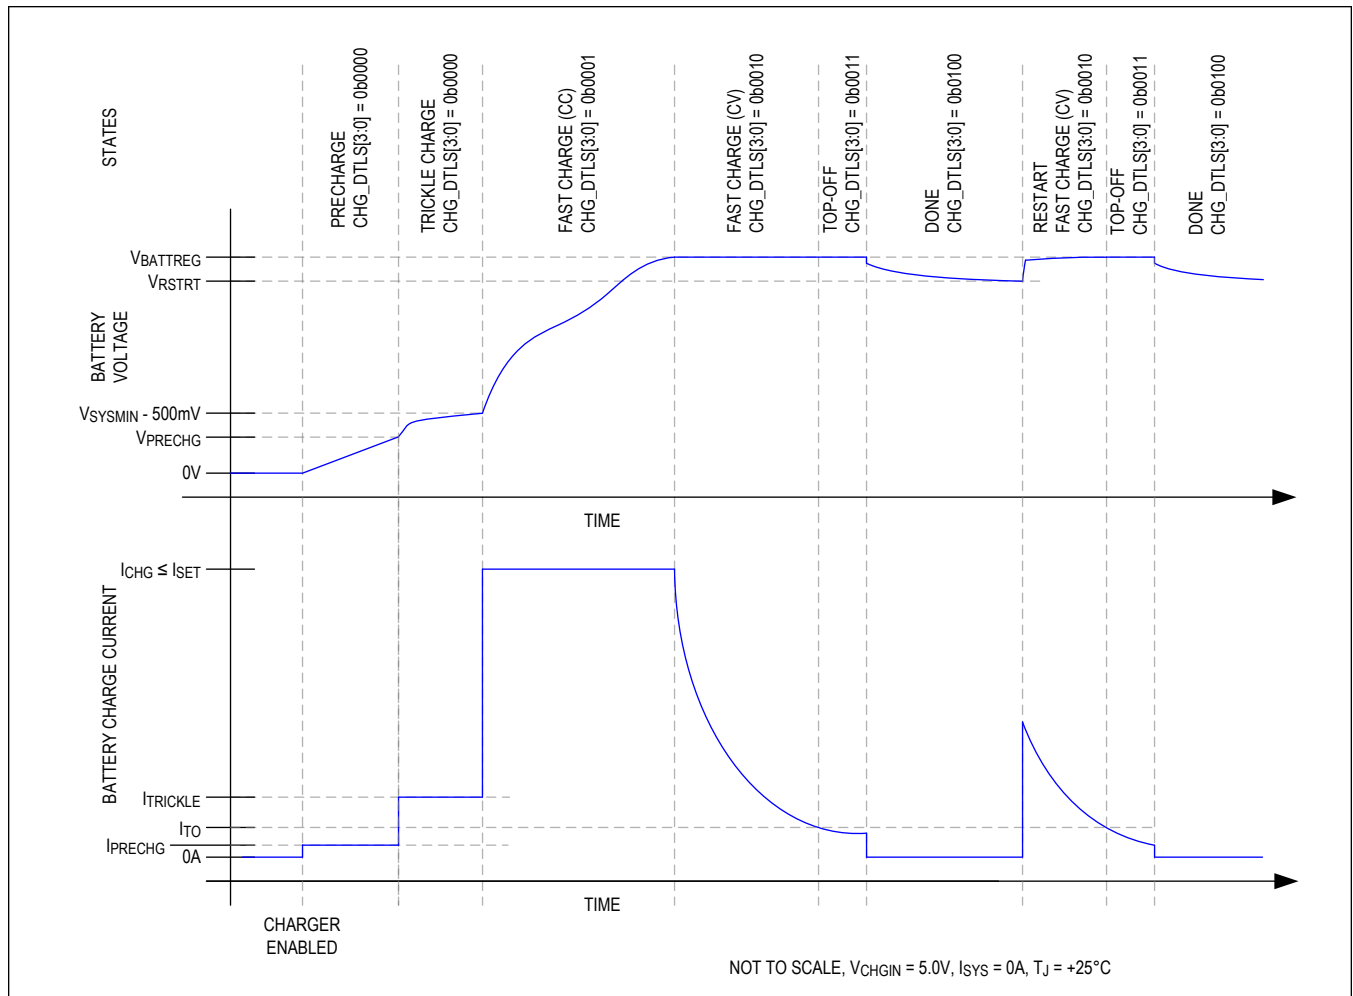
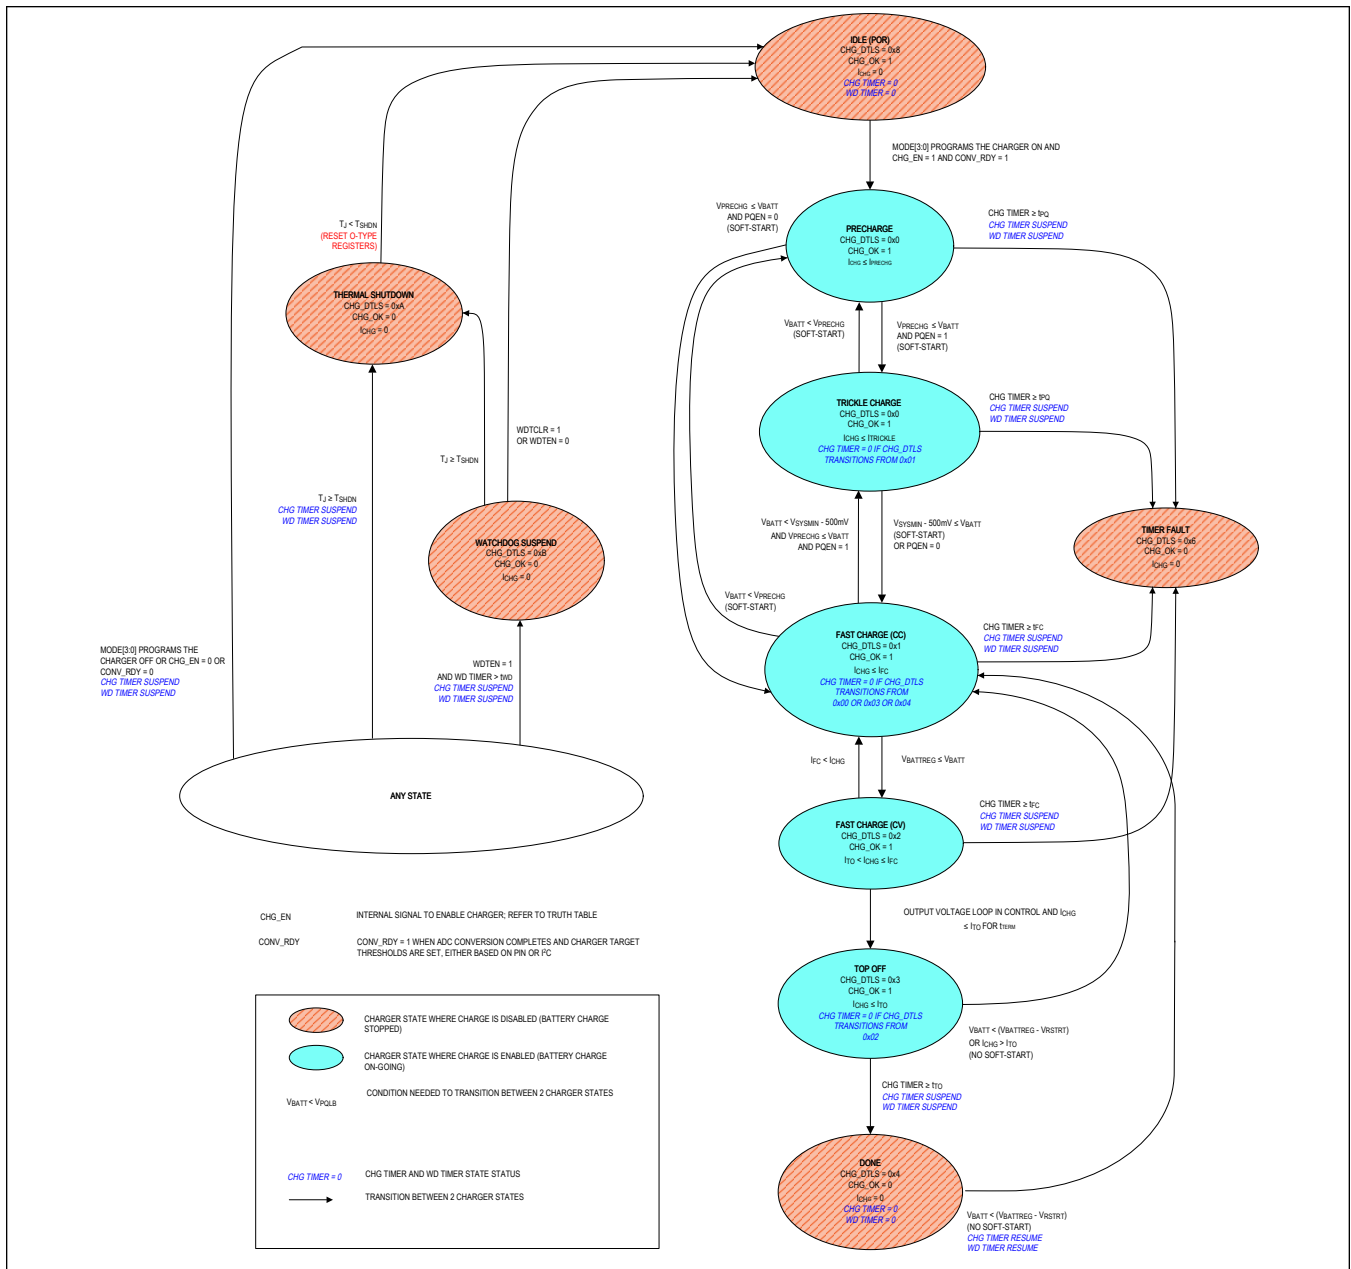

Figure 1. Li Battery Charge Profile
Figure 2. Charger State Diagram
The MAX77960B/MAX77961B utilize several charging states to safely and quickly charge batteries as shown in Figure 1 and Figure 2. Figure 1 shows an exaggerated view of a Li+/Li-Poly battery progressing through the following charge states when there is no system load and the die and battery are close to room temperature: Prequalification → Fast-charge → Top-off → Done.
From any state shown in Figure 2 except thermal shutdown, the no input power or charger disabled state is entered whenever the charger is programmed to be off or the charger input CHGIN is invalid. After being in this state for t_{SCIDG}, CHG_DTLS is set to 0x08 and CHG_OK is set to 1. A CHG_I interrupt is generated if CHG_OK was 0 previously.
As shown in Figure 2, the charger enters the precharge state when the battery voltage is less than V_{PRECHG} . After being in this state for t_{SCIDG} , a CHG_I interrupt is generated if CHG_OK was 0 previously, CHG_OK is set to 1 and CHG_DTLS is set to 0x00. In the precharge state, charge current into the battery is I_{PRECHG} .
As shown in Figure 2, the charger state machine is in trickle charge state when $V_{PRECHG} < V_{BATT} < V_{SYSTEMIN} - 500mV$. After being in this state for t_{SCIDG} , a CHG_I interrupt is generated if CHG_OK was 0 previously, CHG_OK is set to 1 and CHG_DTLS = 0x00.
As shown in Figure 2, the charger enters the fast-charge constant current (CC) state when $V_{SYSTEMIN} - 500mV$ (typ) < $V_{BATT} < V_{BATTREG}$. After being in the fast-charge CC state for t_{SCIDG} , a CHG_I interrupt is generated if CHG_OK was 0 previously, CHG_OK is set to 1 and CHG_DTLS = 0x01.
As shown in Figure 2, the charger enters the fast-charge constant voltage (CV) state when the battery voltage rises to V_{BATTREG} from the fast-charge CC state. After being in the fast-charge CV state for t_{SCIDG}, a CHG_I interrupt is generated if CHG_OK was 0 previously, CHG_OK is set to 1 and CHG_DTLS = 0x02.
In the fast-charge CV state, the battery charger maintains V_{BATTREG} across the battery and the charge current is less than or equal to I_{FC}. As shown in Figure 1, charger current decreases exponentially in this state as the battery becomes fully charged.
As shown in Figure 2, the top-off state can only be entered from the fast-charge CV state when the charger current decreases below I_{TO} for t_{TERM}. After being in the top-off state for t_{SCIDG}, a CHG_I interrupt is generated if CHG_OK was 0 previously, CHG_OK is set to 1, and CHG_DTLS = 0x03. In the top-off state the battery charger maintains V_{BATTREG} across the battery and typically the charge current is less than or equal to I_{TO}.
As shown in Figure 2, the battery charger enters its done state after the charger has been in the top-off state for t_{TO} . After being in this state for t_{SCIDG} , a CHG_I interrupt is generated only if CHG_OK was 0 previously, CHG_OK is set to 0 and CHG_DTLS = 0x04.
The battery charger provides both a charge timer and a watchdog timer to ensure safe charging. As shown in Figure 2, the charge timer prevents the battery from charging indefinitely. The time that the charger is allowed to remain in its prequalification states is t_{PQ} . The time that the charger is allowed to remain in the fast-charge CC and CV states is t_{FC} , which is programmable with FCHGTIME. Finally the time that the charger is in the top-off state is t_{TO} which is programmable with TO_TIME. Upon entering the timer fault state a CHG_I interrupt is generated without a delay, CHG_OK is cleared and CHG_DTLS = 0x06.
The charger is off in the timer fault state. The charger can exit the timer fault state when the charger is programmed to be off then on again through the MODE bits or when DISQBAT pin is toggled from L-H-L. Alternatively, the charger input can be removed and reinserted to exit the timer fault state (see the ANY STATE bubble in Figure 2).
The battery charger provides both a charge timer and a watchdog timer to ensure safe charging. As shown in Figure 2, the watchdog timer protects the battery from charging indefinitely in the event that the host hangs or otherwise cannot communicate correctly. The watchdog timer is disabled by default with WDTEN = 0. Enable the feature by setting WDTEN = 1. With watchdog timer enabled, the host controller must reset the watchdog timer within the timer period (t_{WD}) in order for the charger to operate properly. Reset the watchdog timer by programming WDTCLR = 0x01.
As shown in Figure 2, the state machine enters the thermal shutdown state when the junction temperature (T_J) exceeds the device's thermal shutdown threshold (T_{SHDN}). When T_J is close to T_{SHDN} , the charger would have already folded back the input current to 0A, (see the Thermal Foldback section for more details), so the charger and the DC-DC are effectively off. Upon entering this state, CHG_I interrupt is generated if CHG_OK was 1 previously, CHG_OK is cleared, and CHG_DTLS = 0x0A.